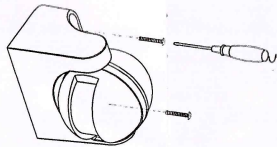

Figure1
- Loosen the screw in the back and unload the bottom (refer to figure 1).